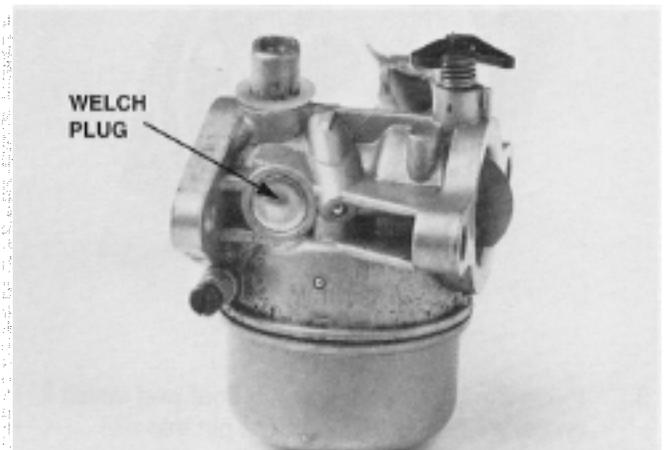

Figure 17
8. Using an awl, pierce the Welch plug, then carefully remove it so that the idle progression holes are exposed (**Figure 17**).